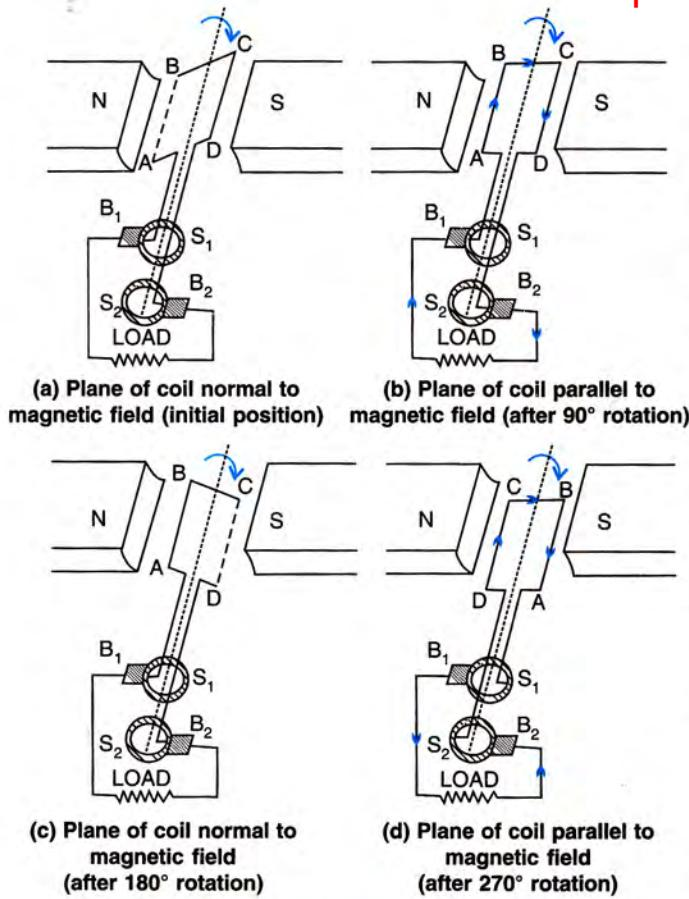

Fig. 10.33 Working of a.c. generator
- (3) **Slip rings S1 and S2 :** There are *two coaxial metallic rings S1 and S2 which rotate along with the coil*. One end of the coil is connected to the slip ring S1 and the other end of the coil is connected to the slip ring S2. Each ring slips against a brush which is stationary
- (4) **Brushes B1 and B2 :** There are *two brushes B1 and B2 made of carbon, which press gently against the slip rings S1 and S2 respectively*. The other ends of brushes act as terminals of the generator across which the external circuit containing load is connected. *The brushes B1 and B2 do not rotate along with the coil and the slip rings.*
**Working :** The working of an a.c. generator is shown in Fig. 10.33. Let the magnetic field be in the plane of paper from north pole N to the south pole S. Initially let the plane of coil be perpendicular to the magnetic field (*i.e.*,  $\theta = 0^\circ$ ) so maximum magnetic field lines pass through the coil. In this position, the arm AB of coil is below the plane of paper, while the arm CD of coil is above the plane of paper as shown in Fig. 10.33(a). The end A of coil is connected to the slip ring S1 and the end D to the slip ring S2. The brush B1 touches the slip ring S1 and the brush B2 touches the slip ring S2. No e.m.f. is induced in the coil when it is at rest.
A to B, while in the arm CD which moves inwards (or from above into the plane of paper), the induced current is from C to D. Therefore in the external circuit, the current flows from the brush  $B_2$  to the brush  $B_1$  through the load. When the coil gets rotated by  $90^\circ$  (i.e., the plane of coil becomes parallel to the magnetic field or  $\theta = 90^\circ$ ) as shown in Fig. 10.33(b), no magnetic field line passes through the coil, so the magnetic flux linked with coil becomes zero. At this instant, the e.m.f. induced in coil is *maximum* because the rate of change of magnetic flux is maximum at this instant.
On rotation of coil by  $180^\circ$ , the plane of coil again becomes normal to the magnetic field as shown in Fig. 10.33(c). Now the magnetic field lines passing through the coil becomes maximum. At this position of coil, the rate of change of magnetic flux is zero, therefore no e.m.f. is induced in the coil.
When the coil gets rotated further, the magnetic flux linked with the coil decreases and the e.m.f. again increases to the same maximum value, but in opposite direction. When the coil gets turned by  $270^\circ$  from its initial position as shown in Fig. 10.33(d), the e.m.f. induced in the coil is *maximum* because the rate of change of magnetic flux is again maximum at this instant. Now the arms of coil AB and CD have interchanged their position. As a result, an induced current flows in the coil in direction DCBA (*i.e.* in the external circuit from the brush  $B_1$  to the brush  $B_2$ ).
On further rotation of the coil, the induced e.m.f. reduces to zero and the magnetic flux linked with coil becomes maximum when the plane of coil gets rotated by  $360^\circ$  and becomes normal to the magnetic field as shown in Fig. 10.33(a).